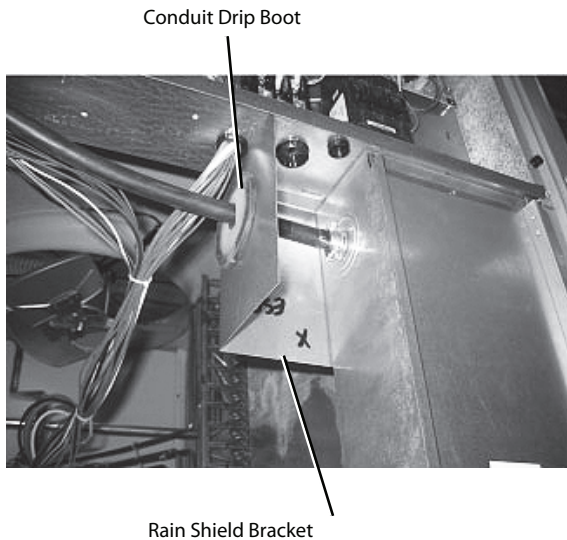

Fig. 27 - Rain Shield Installation
10. The single point box kit will contain two rain shield brackets, a larger bracket with boot seal and a smaller (shorter) bracket without a seal. Remove the seal from the larger bracket and push the conduit drip boot seal into the short rain shield bracket. (See Fig. 27.) Discard the larger bracket.